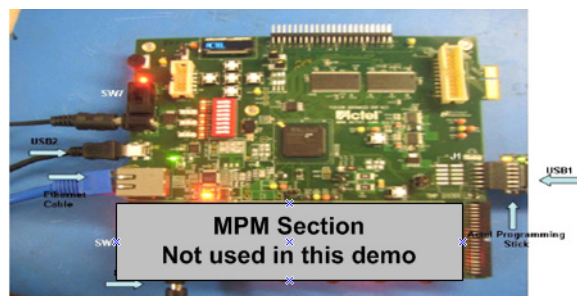

Figure B-1 • Connect J1 Pins on M1AFS-ADV-DEV-KIT Board
1. Connect the J1 pins on the Actel M1AFS-ADV-DEV-KIT board to the Actel low-cost programming stick (Figure B-1).